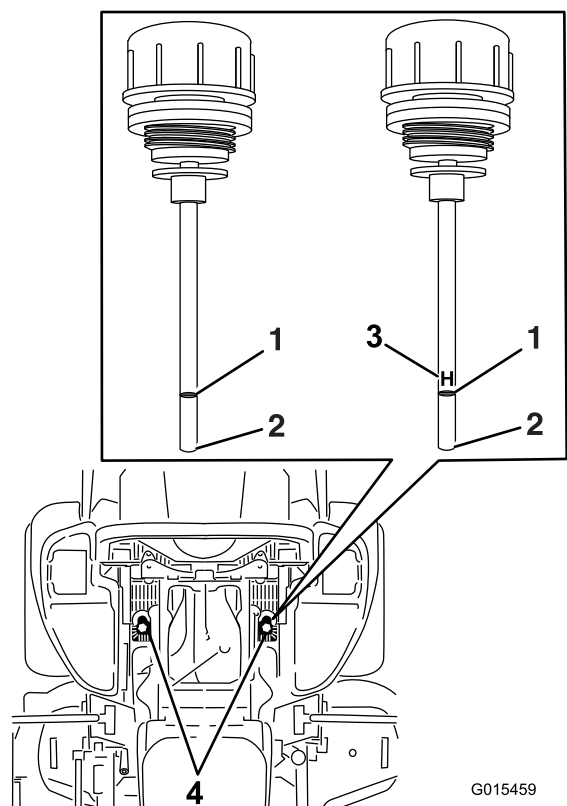

Figure 88
6. Clean the area around the dipsticks of hydraulic-system reservoirs (Figure 88).
7. Remove 1 dipstick from the hydraulic reservoir (Figure 88).
9. Remove the dipstick and look at the end (Figure 88).